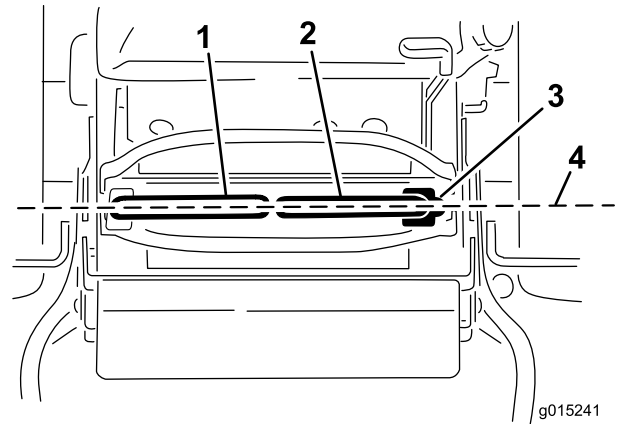

Figure 19
1. After the horizontal alignment is finished, check the front to back alignment (Figure 19).
Important: Ensure the tracking of the mower is correct after adjusting the motion control levers. Adjusting the tracking and aligning the motion control levers front to back is the same procedure (Figure 19).